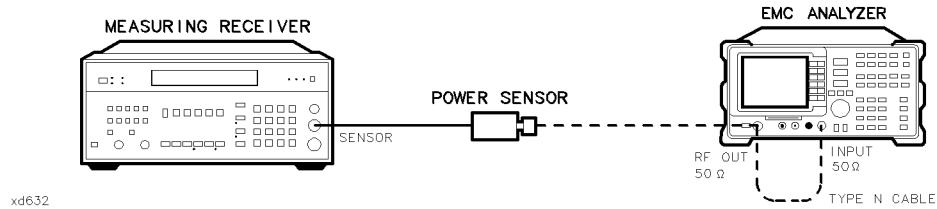

Figure 2-74.
1. Connect the Type N cable between the RF OUT 50 Ω and INPUT 50 Ω connectors on the EMC analyzer. See Figure 2-74.
5. Disconnect the Type N cable from the RF OUT 50 Ω and connect the 100 kHz to 2.9 GHz power sensor to the RF OUT 50 Ω. See Figure 2-74.